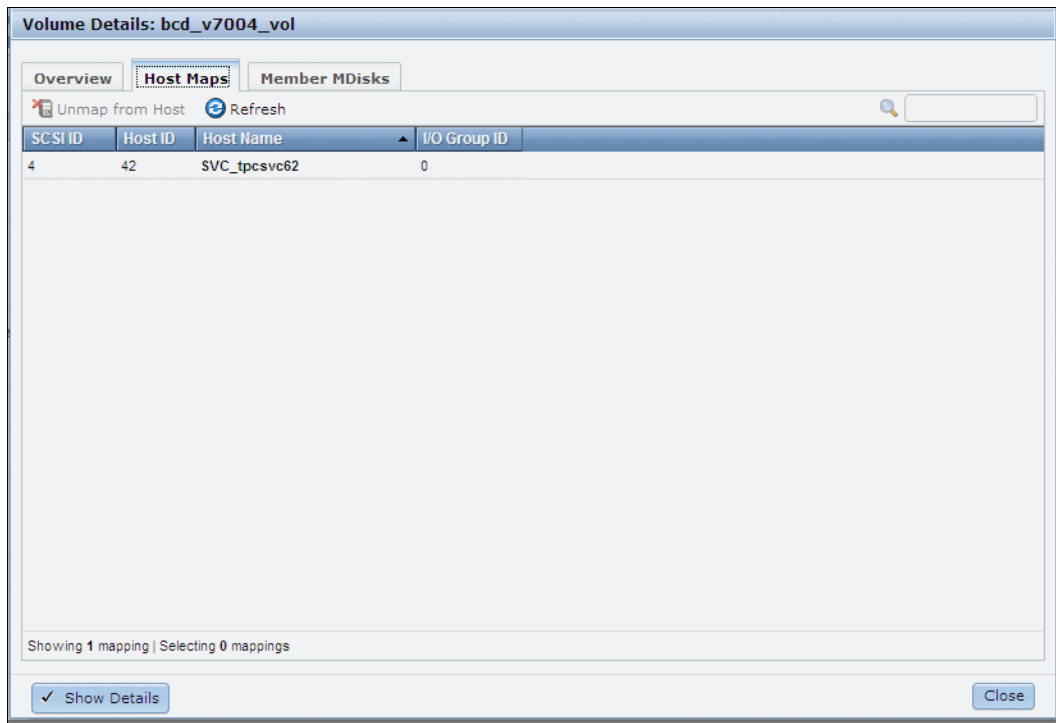

Figure 3-8 Storwize volume details for host maps
2. On the Host Maps tab (see Figure 3-8), check the SCSI ID number for the specific volume. This value is used to match the IBM Spectrum Virtualize ctrl_LUN_# (in hexadecimal format).